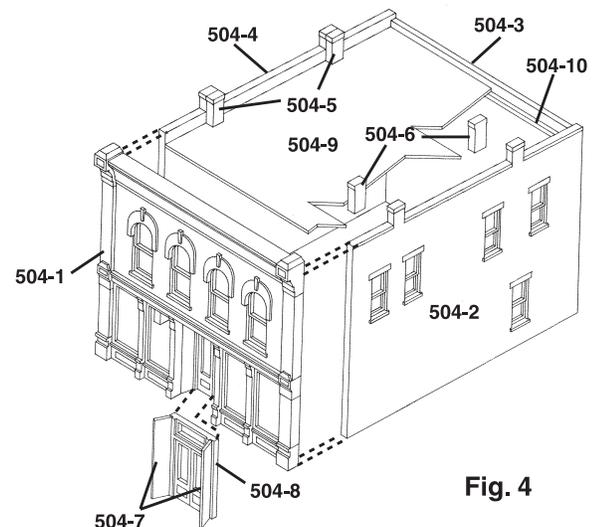

Fig. 4
- Using Side Panel material (white styrene strip), cut two Entry Door Side Panels (504-6) the same height as Entry Door (504-7) (Fig. 4).
- Glue Front Door Assembly to back of Front Wall (504-1) (Fig. 4).
- Glue Chimney Backs in place (Fig. 4). When glue is set, file tops flat.